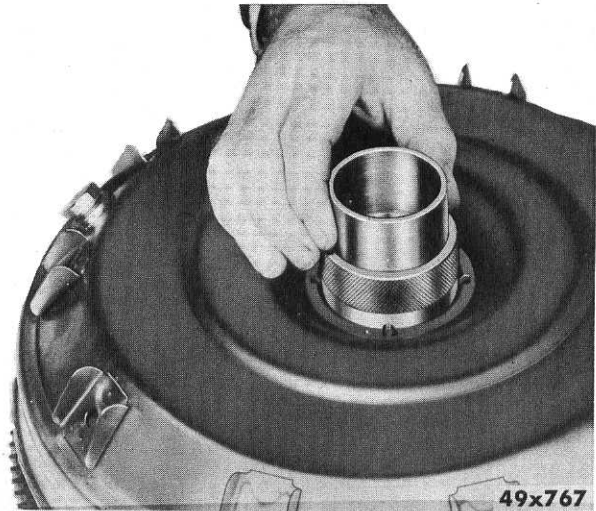

Fig. 15—Pushing Seal Ring off Locators, Using Pilot (Tool SP-788, Part of Tool C-885)
- (6) Slide the pilot sleeve SP-788 *gently* down inside Tool SP-791 in order to push the seal ring off the locators and onto the two small indentions at the bottom of the seal housing, as shown in Figure 15.